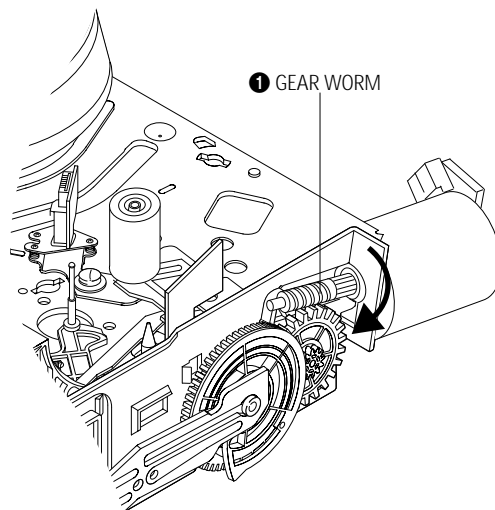

Fig. 4-38
- 3) Rotate Gear Worm ❶ clockwise using screw driver again up to the state of eject mode and then pick out the tape. (Refer to Fig. 4-38)